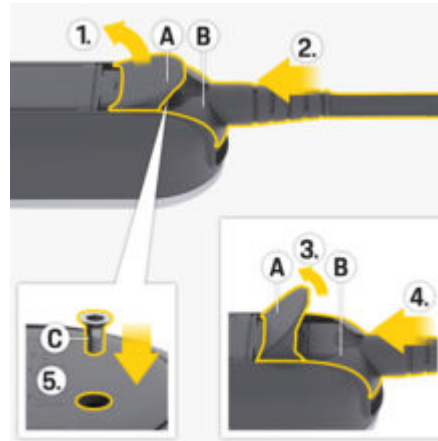

Fig. 14: Securing supply cables and plugs
1. Open the cover **A** (Fig. 14) by about 15 degrees (just far enough so that the plug **B** (Fig. 14) fits in the control unit).
2. Insert the plug **B** (Fig. 14) into the control unit until resistance is first felt.
3. Fully open the cover **A** (Fig. 14).
4. Push in the plug **B** (Fig. 14) fully.
5. Close the cover **A** (Fig. 14) fully and fasten with screw **C** (Fig. 14).